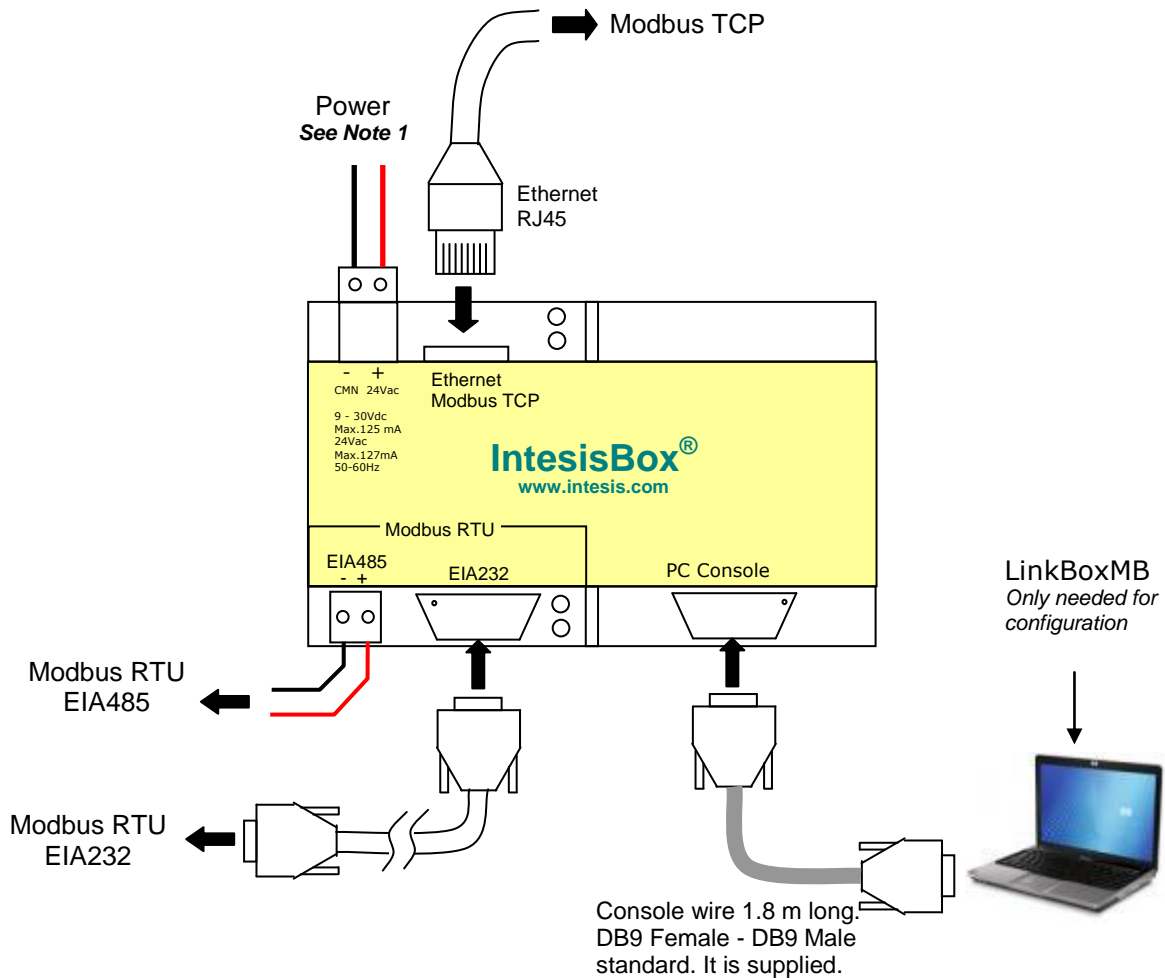

Figure 4.1 Device connection diagram
Connect the communication cable coming from the Modbus RTU network to the port marked as Modbus RTU of IntesisBox (Figure 4.1). Two methods to connect to the Modbus network can be used:
Connect the communication cable coming from the network hub or switch to the ETH port (Figure 4.1) of IntesisBox. The cable to be used depends on where the IntesisBox is being connected:
- Ethernet: Using the ETH port (Figure 4.1) of IntesisBox. How to check connectivity is explained in section 4.3.
- Serial cable: To connect the device to the PC the serial cable supplied should be plugged to the PC console port (Figure 4.1).